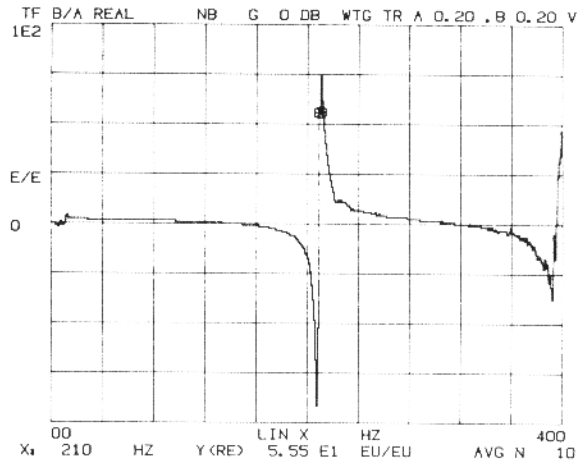
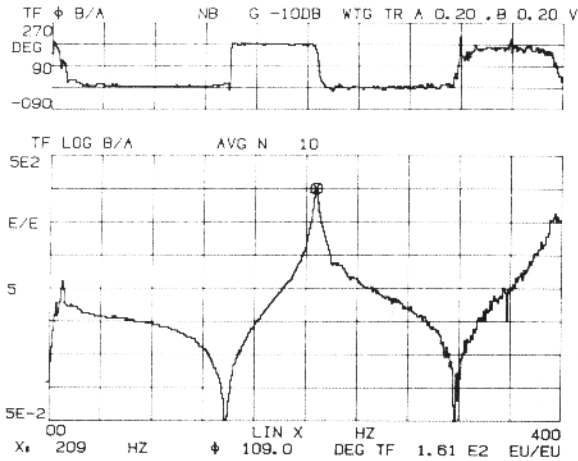

Figure 17. Real Components of the Transfer Function in Figure 16
Figure 16. Transfer Function Magnitude and Phase
b. In the real (RE) and imaginary (IM) transfer function display, the same problem, lack of frequency resolution, exists with the real component that we had with the phase angle measurement. Figure 16 shows a transfer function with a mode at 209 Hz. The real component is shown in Figure 17. Note how rapidly the real value passes through zero. By using zoom to increase resolution, we get more data points as the real value
One method of performing a damping calculation on a simple system is to use the real component shown in Figure 17. However, when the most negative point and positive point of this signal get very close together (this occurs in lightly and moderately damped systems) there is not enough measurement resolution to perform the calculation with confidence. The formula for calculating the damping coefficient is: